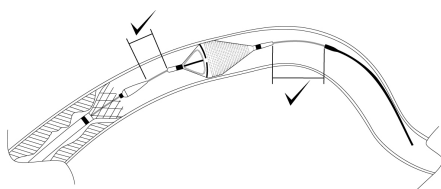

Figure 16
- Once the Delivery Catheter is distal to the lesion, establish desired stent location and note where the distal edge of the stent will be placed. Using the marker bands on the Filtration Element and Delivery Catheter as guides, position the Delivery Catheter accordingly. Ensure that there is enough distance between the proximal tip of the Filtration Element and the most distal tip of any interventional device to be introduced over the Filter Delivery Wire to avoid contact during the procedure. Ensure that there is enough distance between the proximal end of the 0.014" Radiopaque Distal Tip of the Filter Delivery Wire and the distal tip of the Filtration Element to avoid unnecessary contact during the procedure. **Stent Delivery System / Balloon Catheter distal tips may vary in size and radiopacity. The tip of a balloon catheter or a stent delivery system should not contact the Filtration Element (see Figure 16).**